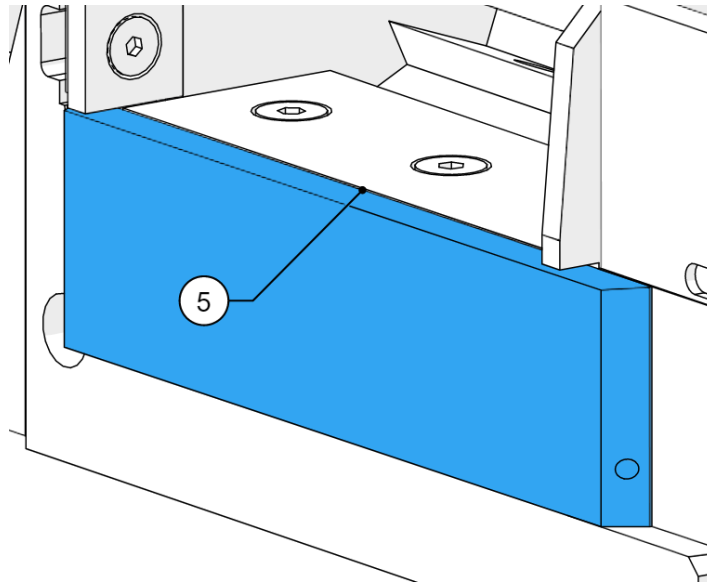

Figure 60 - Anvil tight to the bedplate
14. Insert the anvil through the side of the chamber, making sure that the anvil stays tight to the bed plate (5, Figure 60).